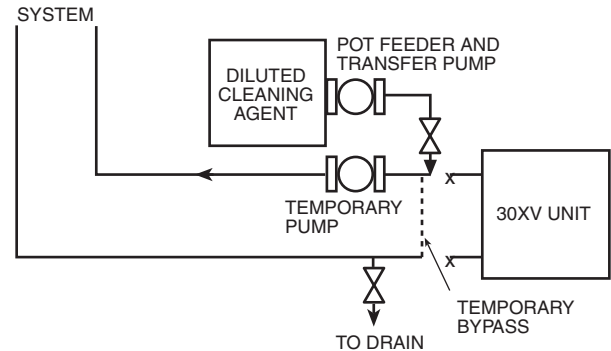

Fig. 45 — Typical Set Up for Cleaning Process
1. Install a temporary bypass around the chiller to avoid circulating dirty water and particulates into the chiller during the flush. Use a temporary circulating pump during the cleaning process. Also, be sure that there is capability to fully drain the system after cleaning. See Fig. 45.